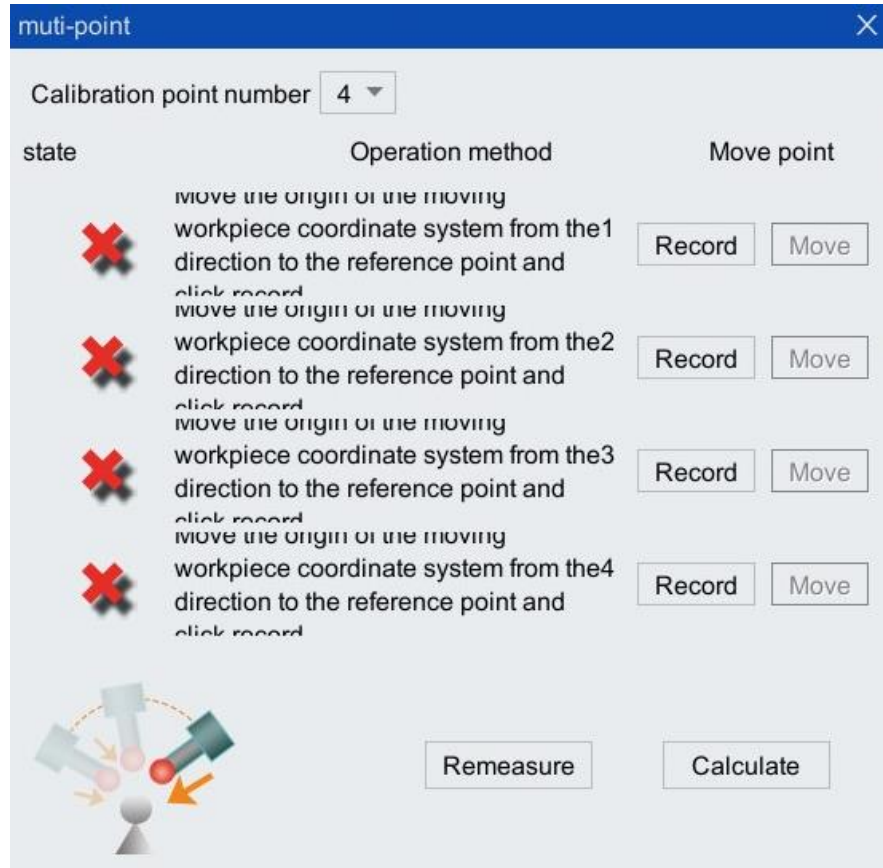

Figure 5-79 [Multi-point method] calibration interface
Step2.Select the row where wobj1 is located, and click the <multi-point method> button below, and the [multi-point method] calibration interface as shown in Figure 5-79 will pop up. The button function description in the interface is shown in Table 5-8.